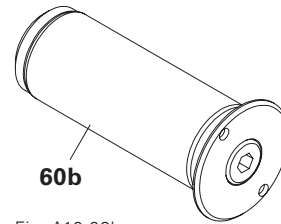

Fig. A10.02b
- Stopper MX18-75 MF-L (Fig. A10.02b)